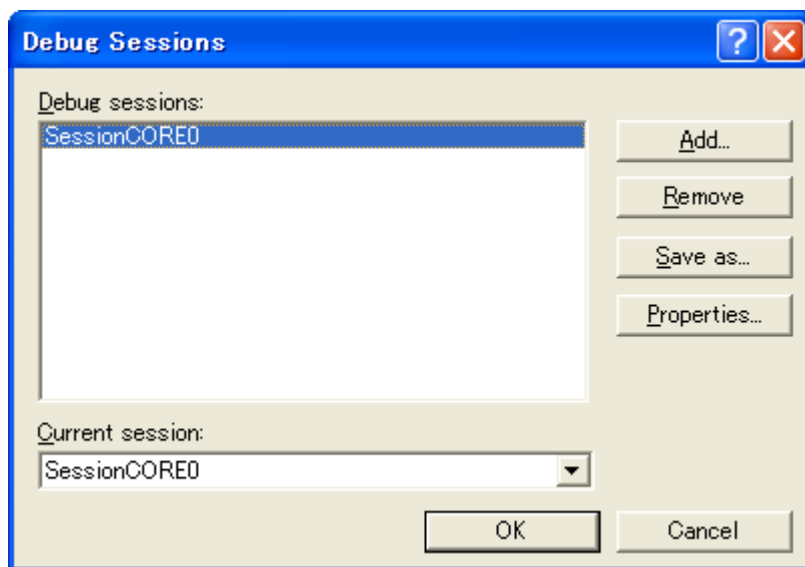

Figure 4.20 [Debug Sessions] Dialog Box
3. Click the [Save as...] button to display the [Save Session] dialog box (figure 4.20).